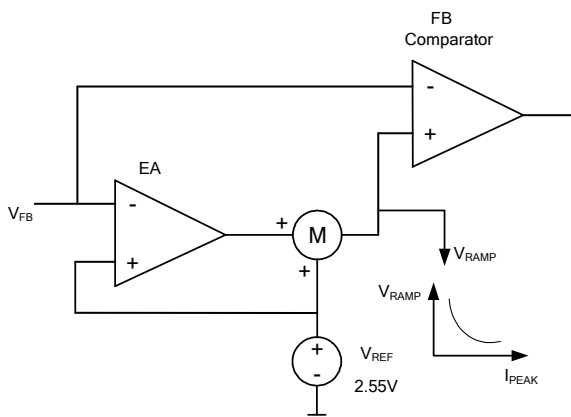

Figure 4: EA and Ramp Compensation
The MP172A has an internal error amplifier (EA) compensation loop (see Figure 4). It samples the feedback voltage $6\mu\text{s}$ after the MOSFET turns off, and regulates the output based on the 2.55V reference voltage.
An internal ramp compensation circuit improves the load regulation. An exponential voltage signal is added to pull down the feedback comparator's reference voltage (see Figure 4). The ramp compensation is a function of the load conditions: the compensation is about $1\text{mV}/\mu\text{s}$ under full-load conditions. The compensation increases exponentially as the peak current decreases.